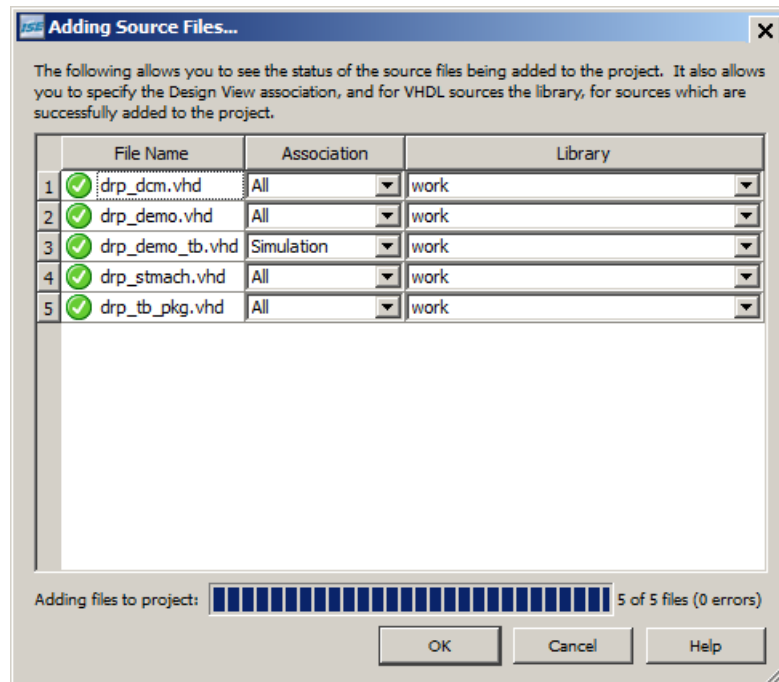

Figure 2-2: Adding Sources Dialog Box: Status of Source Files and Associations
4. In the **Adding Source Files** dialog box, ensure that the association and libraries are properly specified for the tutorial sources. Compare your settings with those in Figure 2-2.